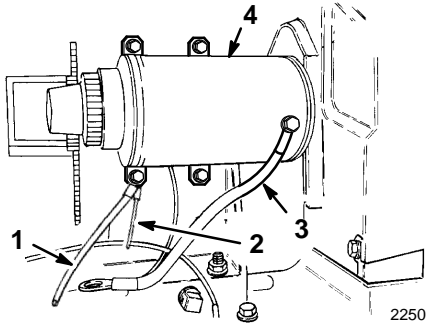

Figure 7
- Secure the starter motor assembly, negative (black) battery cable, and black wire of the charging plug (wire with ring terminal end) to the engine with four 19 mm (3/4") lg. capscrews as shown in Figures 7 and 8. The wires should be attached to the bottom mounting screw.